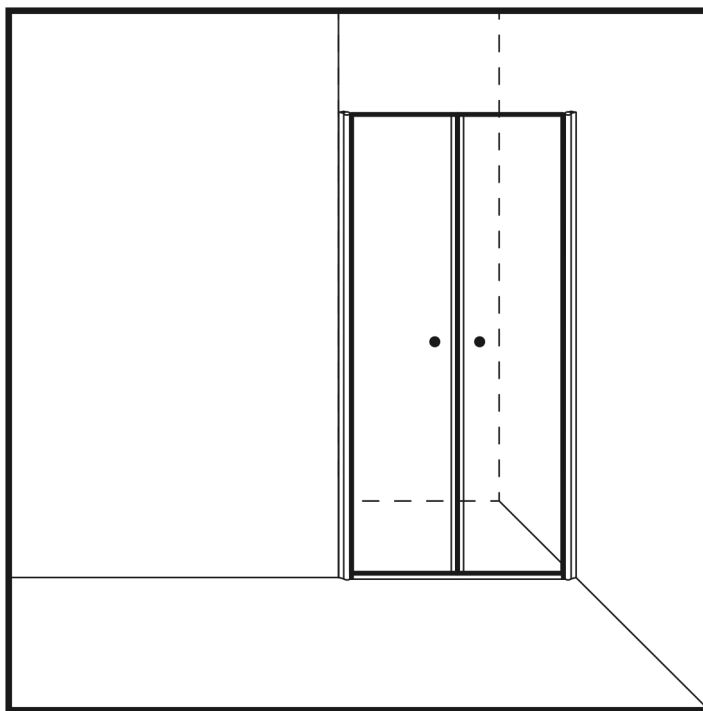

Figure 9
20. Remove the blocks from under the glass. (Figure 9)